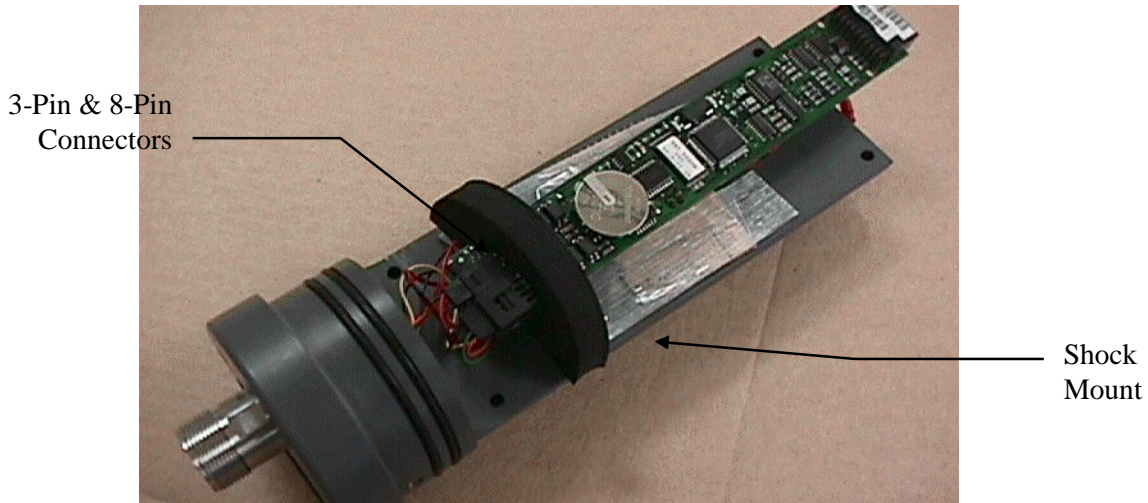

Figure 11
1. Carefully, install a shock mount onto the board by slipping it over the end of the board and sliding it into location between the PCB's 3-pin connector and the PCB's battery. See *Figure 11*
3. Position the PCB w/ shock mount on the battery compartment as shown figure 11.